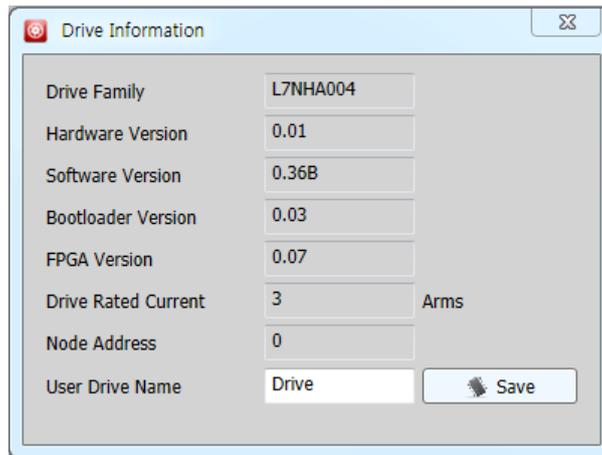

Figure 3-1.17
- (4) Figure 3-1.17 Check the accuracy of drive's information, the following popup window appears.